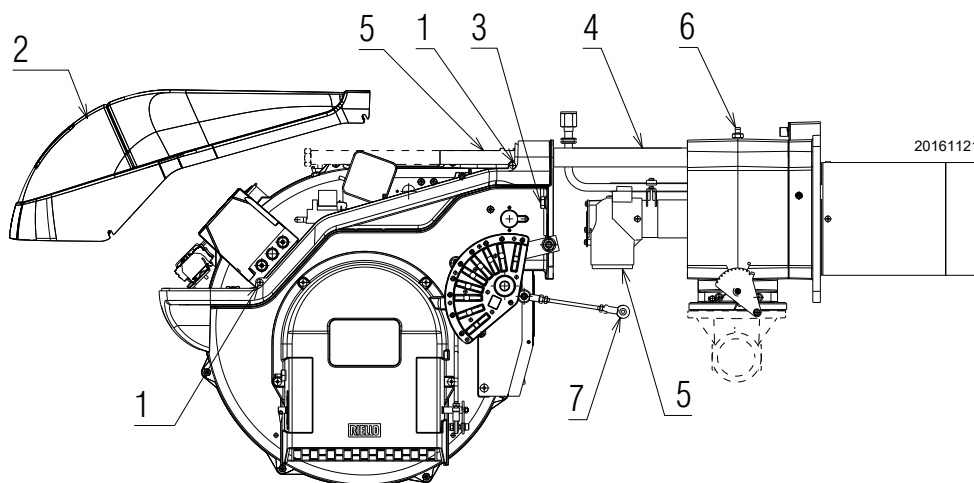

Fig. 49
- remove screws 1)(Fig. 49) and withdraw the cover 2);
- push the burner 13)(Fig. 49) at approximately 4" from the electrical board 14);
- insert the ignition electrode cables and then slide the burner up to the sleeve so that it is positioned as shown in (Fig. 49);